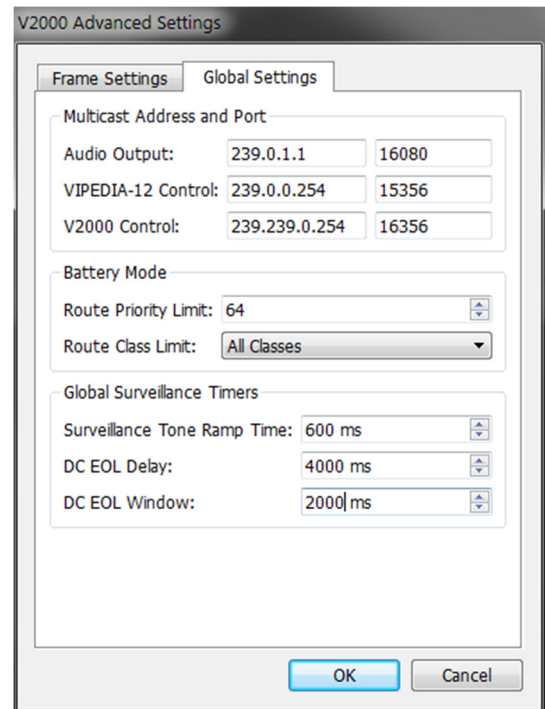

Figure 5 PAVA System Configuration tool - V2000 advanced global settings
- f) Select the 'Global Settings' Tab (see **Figure 5**)